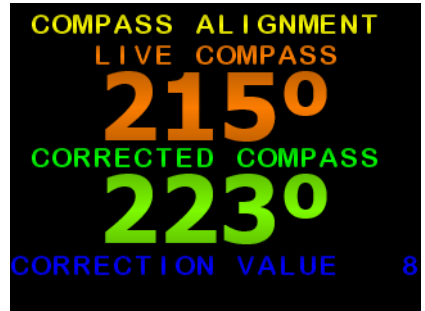

Figure 7: Press ◀ or ▶ to change the Corrected Compass heading so it matches your alternative reference
- Press ◀ or ▶ to change the Corrected Compass heading so it matches your alternative reference (Figure 7)